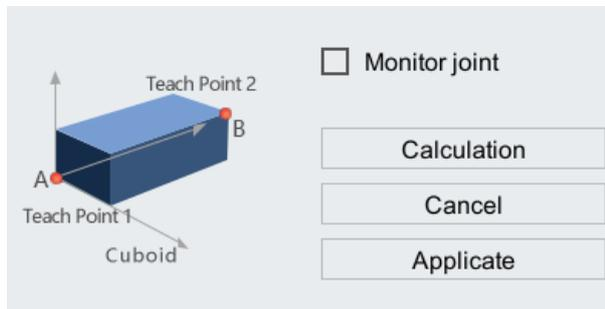
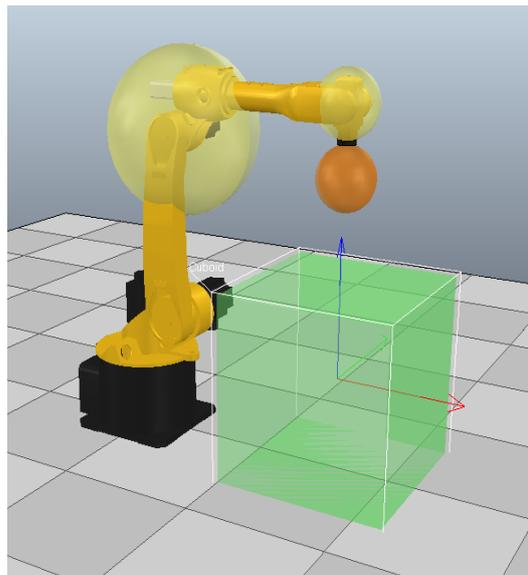

Figure 6-54 Contents of model of cuboid working zone
Figure 6-57 Contents of working condition of cuboid working zone
If you want to uniquely determine the working zone of the cuboid, you need to calculate the two points A and B on the diagonal of the cuboid, as shown in Figure 6-54. The A and B points can be determined through teaching method or manual input method.
Step3.After teaching "Point 1" and "Point 2", click <Calculate> button shown in Figure 6-54 to automatically calculate the coordinates of the points A and B on the diagonal of the cuboid, and click <Applicate> button to complete the zone setting.
Step2.Then click <Applicate> button shown in Figure 6-54 to write the calculated cuboid working zone into the database, and then the setting of the cuboid working zone will be completed. For the contents of the working conditions after setting, please refer to Figure 6-57.